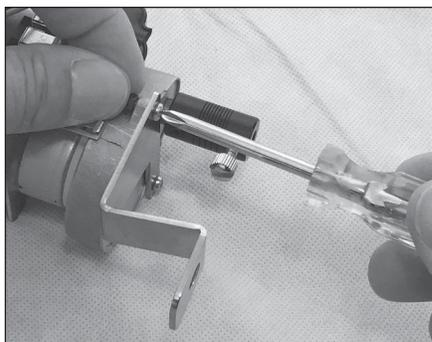
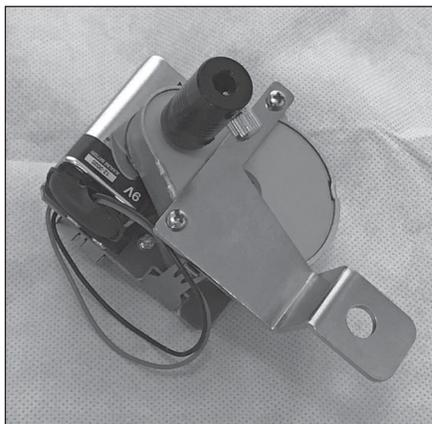

Figure 5. Install the new bracket for EQ-1B mount as shown using the two screws and nuts.
Figure 6. The bracket for the EQ-1B mount fully attached.
5. Insert one of the screws through the aligned holes from the bracket side and place the nut on the screw end. Then use the screwdriver to tighten the screw while holding the nut with your fingers (or the pliers or wrench) (**Figure 5**). Repeat with the other screw. The motor drive with attached bracket should look like **Figure 6**.